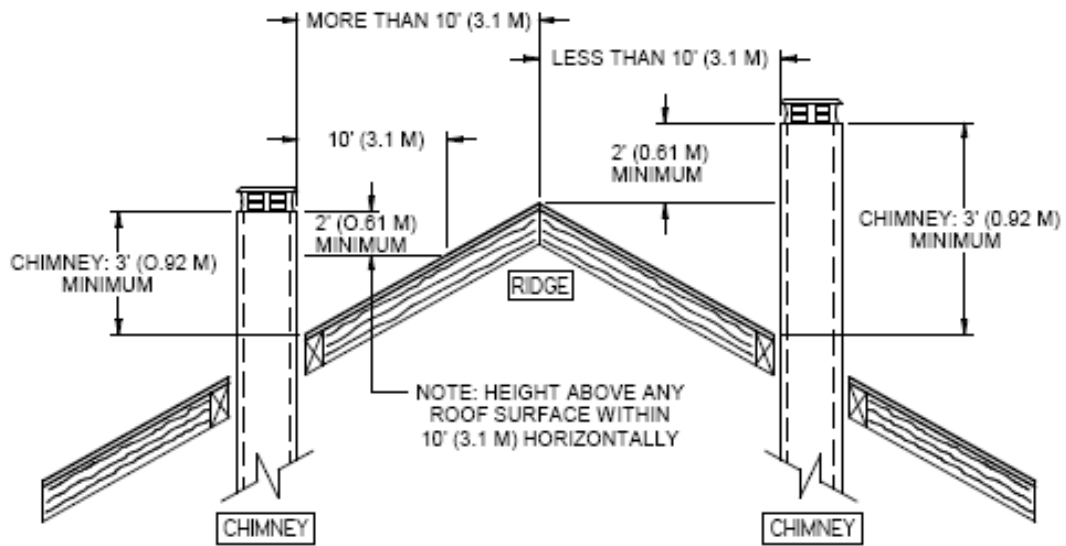

Figure 6.1a
6. The chimney must extend at least 3 ft. (92 cm) above its point of contact with the roof and at least 2 ft. (61 cm) higher than any wall, roof or building within 10 ft. (3.1 m) of it. See Figure 6.1a and 6.1b to determine the configuration that applies to your roof (flat or sloped roof and the distance between the chimney and the highest point of the roof and/or the nearest chimney).